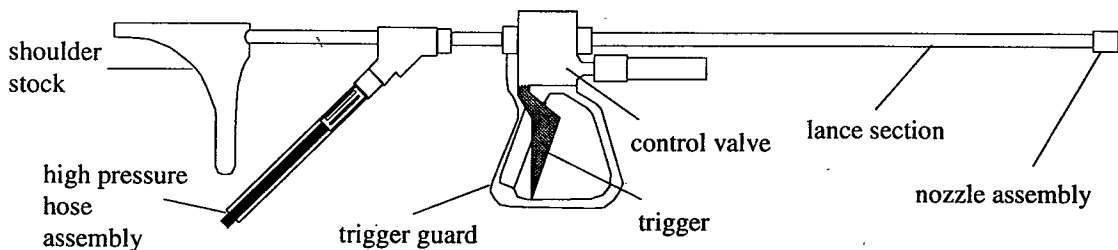

Figure 27. Jetting Lance
13.20 Jetting Gun - The hand-operated device that is often used in manual waterjet (Figure 27). It is normally connected to the high pressure system by a high pressure hose assembly. The gun is made up of a control valve, mounted within a guard, a lance section, and then a nozzle assembly, which may include one or more nozzles. The gun may also include a support bracket and shoulder pad and/or one or more support handles.